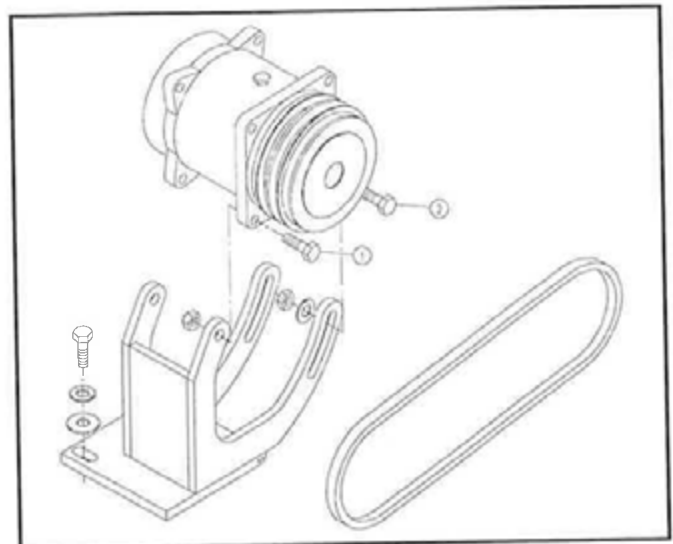

FIG 8.52
To tighten air conditioner compressor belt, loosen the two pivot bolts (fig. 8.52, item 1) and the two slide bolts (fig. 8.52, item 2). Using a suitable prying tool, adjust tension on belt to desired tautness. While maintaining tension, re-tighten all four bolts. Inspect belt every 250 hours.